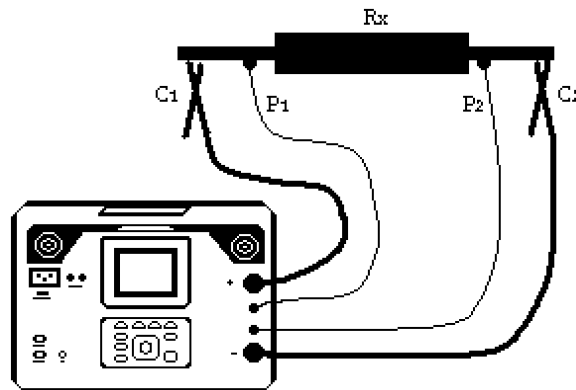

Figure 4.5: Connecting instrument to the measured device
When measuring resistance $<20\Omega$ it is advisable to use a four wire measurement technique (Figure 4.5), for achieving high accuracy. By using this type of measurement configuration the test lead resistance is not included in the measurement, and the need for lead calibrating and balancing is eliminated.
- ▶ Connect device under test to the instrument (see Figure 4.5).